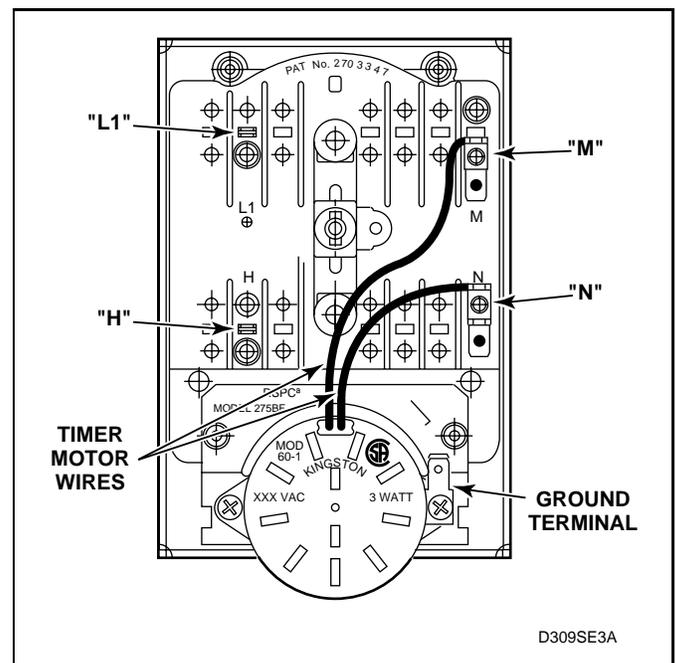

Figure 66
77. TIMER CONTACTS (Nonmetered Models – *Figure 66*)